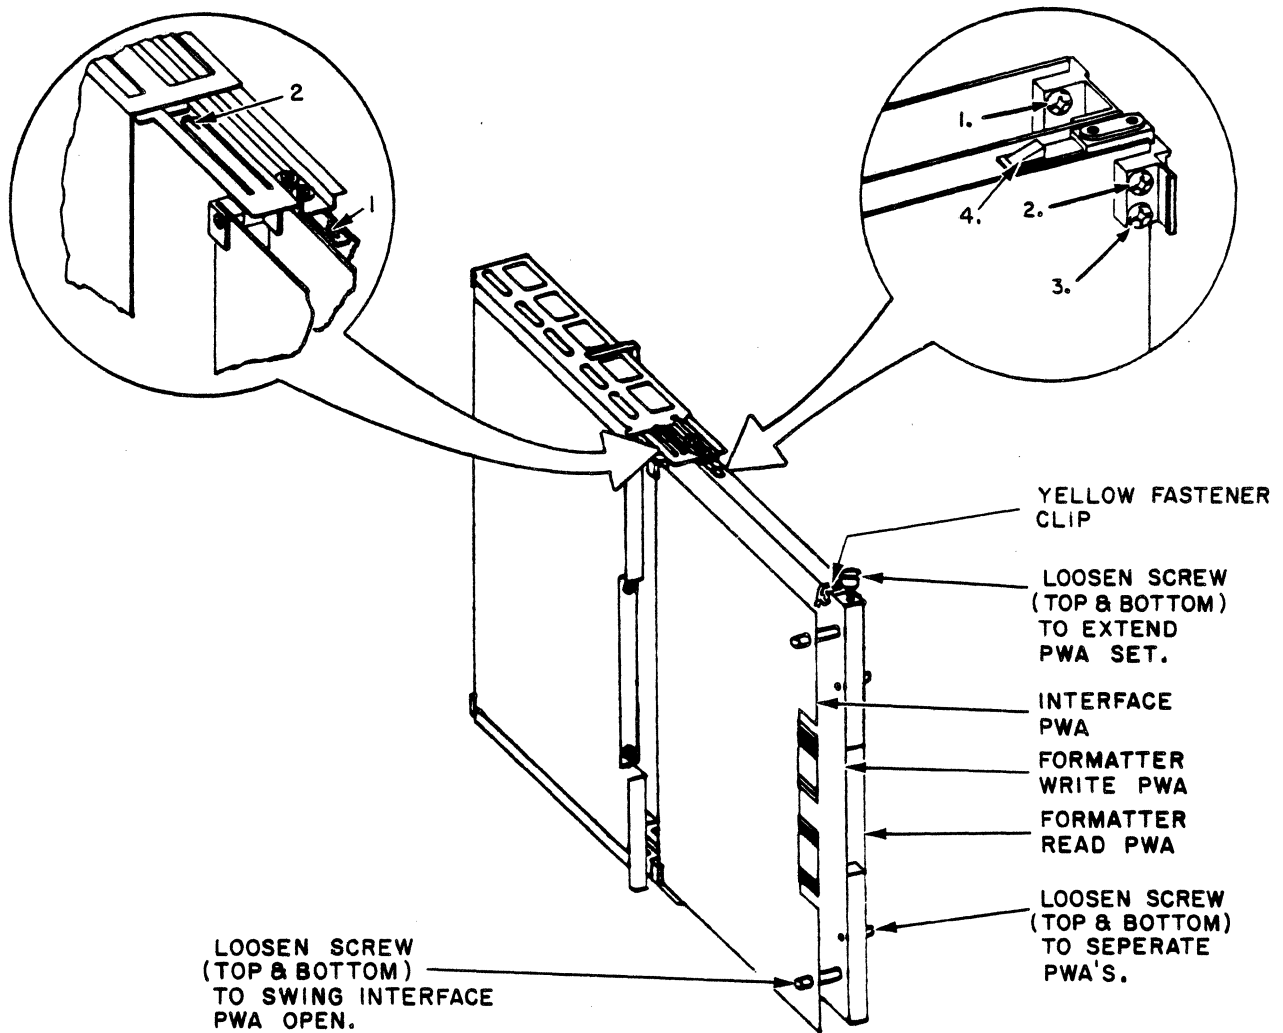
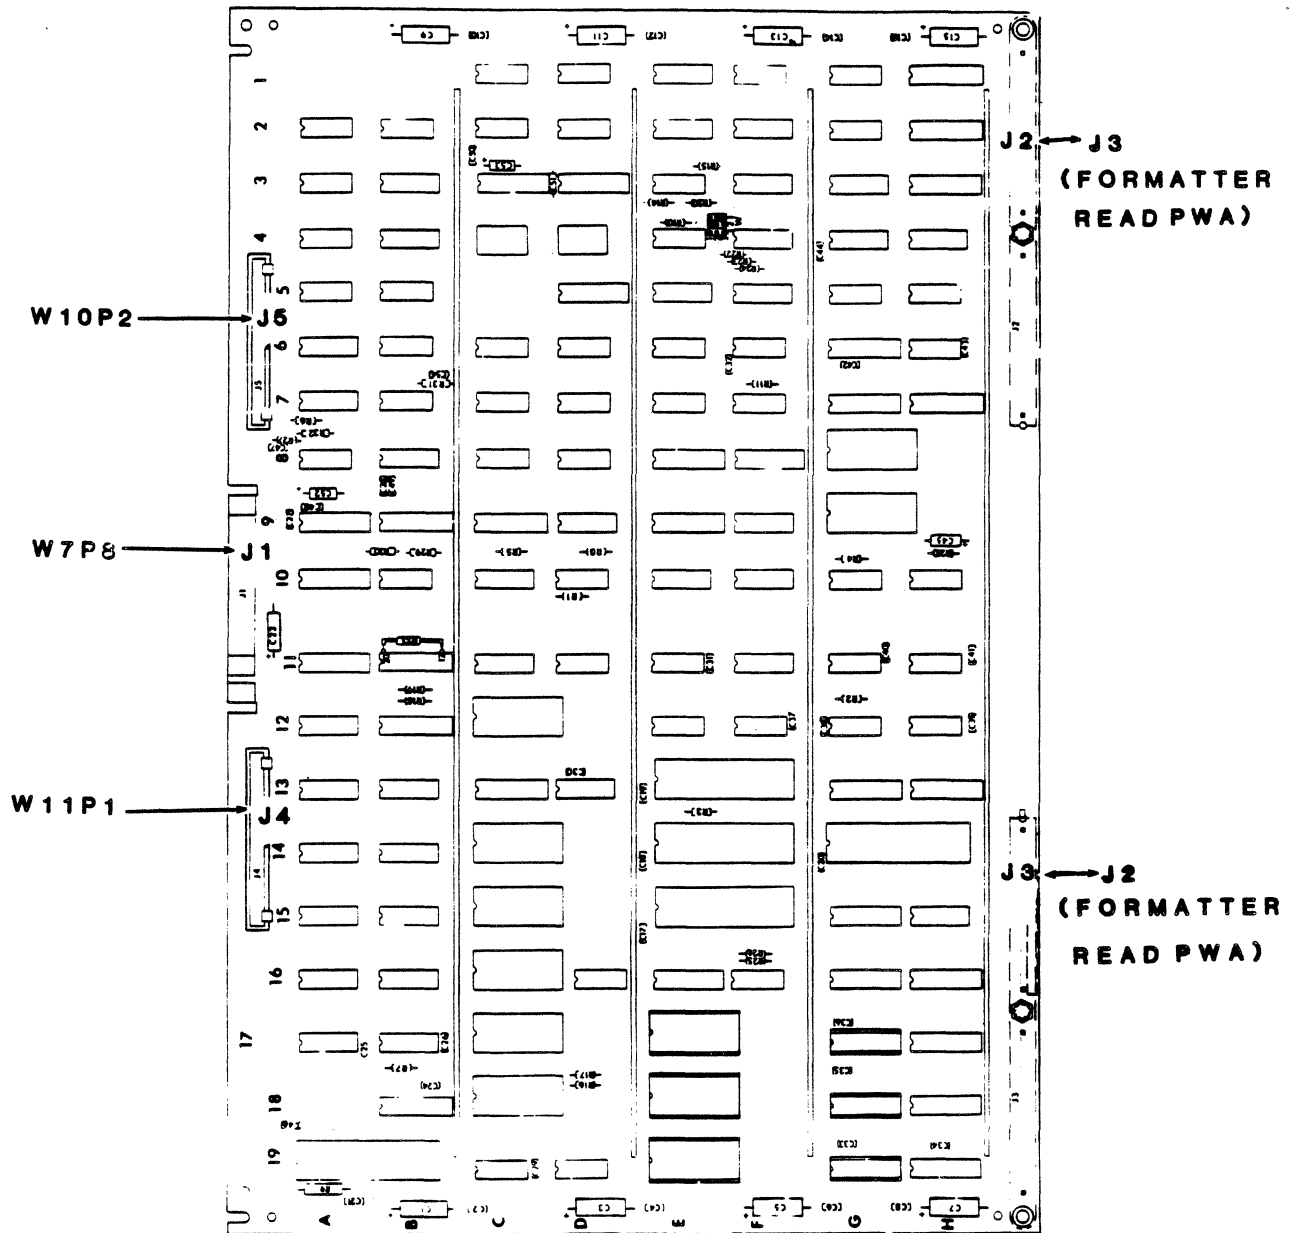

Figure 6-34. Formatter Read/Write/Interface PWAs
Figure 6-36. Formatter Write PWA Connectors
1. Loosen top and bottom thumb screws and slide card set out until detents in top and bottom slide brackets engage with front of card cage. Pull card set out further until plastic snaps on card hinges engage with front of slide brackets (figure 6-34).
2. Remove yellow fastener clips from top and bottom of formatter card set (figure 6-34).
3. Loosen the two thumb screws (figure 6-34) to separate the formatter read PWA from the formatter write PWA. Avoid undue stress on the on-board pin connectors J2 and J3 by loosening the thumb screws alternately and separating the PWAs as the screws are loosened. See figure 6-36.
4. Loosen and back out 6 to 8 turns the bottom screws (see figure 6-34) of each hinge. Loosen top screws one-half turn (do not remove). Hold PWA in place while loosening screws.
4. Reinstall yellow fastener clips on top and bottom of formatter card set (figure 6-34).
5. Depress plastic snaps on top and bottom hinges of card set and slide card set in three inches. Release detents in top and bottom slide brackets and slide card set back into card cage. Tighten top and bottom thumb screws to card cage (figure 6-34).
1. Loosen top and bottom thumb screws and slide card set out until detents in top and bottom slide brackets engage with front of card cage. Pull card set out further until plastic snaps on card set hinges engage with front of slide brackets (figure 6-34).
3. Unscrew top and bottom thumb screws (figure 6-34) securing interface PWA to the formatter write PWA.
4. Remove connectors W10P2 and W11P1 from the PWA (figure 6-36).
5. Loosen the two thumb screws (figure 6-34) to separate the formatter read PWA from the formatter write PWA. Avoid undue stress on the PWA by loosening the thumb screws alternately and separating the PWAs as screws are loosened.
6. Loosen and back out only the top screws (see figure 6-34) of each hinge. Loosen the bottom screws one-half turn (do not remove). Hold the PWA in place while loosening the screws.
5. Secure the formatter write PWA to the formatter read PWA, and the interface PWA to the formatter write PWA by using the thumb screws (figure 6-34).
6. Reinstall yellow fastener clips on top and bottom of formatter card set (figure 6-34).
7. Depress the plastic snaps on the top and bottom hinges of the card set and slide the card set in three inches. Release the detents in the top and bottom slide brackets and slide the card set back into the card cage. Tighten the top and bottom thumb screws to the card cage (figure 6-34).
1. Loosen top and bottom thumb screws and slide card set out until detents in top and bottom slide brackets engage with front of card cage. Pull formatter card set out further with plastic snaps on card set hinges engage with front of slide brackets (figure 6-34).
2. Unscrew upper and lower thumb screws (figure 6-34) securing the interface PWA to the formatter write PWA.
4. Remove the top and bottom screws from the hinges (figure 6-34) and remove the PWA from the card set.
4. Depress plastic snaps on top and bottom hinges of formatter card set and slide card set in three inches. Release detents in top and bottom slide brackets and slide card set back into card cage. Tighten top and bottom thumb screws to card cage (figure 6-34).